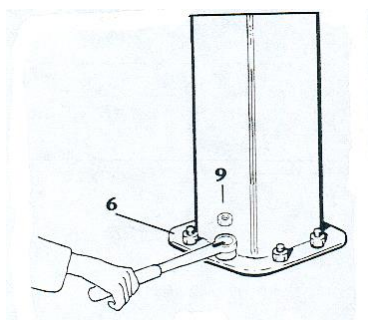

fig. 32
- 5) Stably screw the 6 nuts using a torque wrench, applying the clamping couples (see table on page 19) based on the diameter of the log bolts/bolts, checking the nuts afterwards for unscrewing with the relative safety nuts 9. (fig. 32).